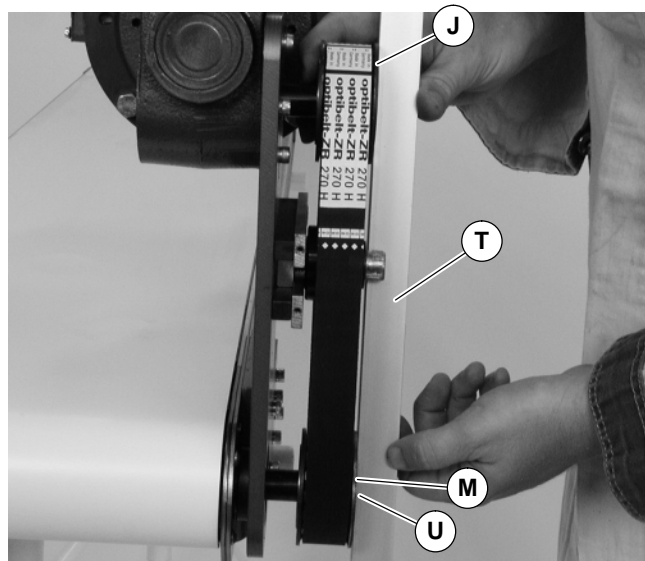

Figure 8
- Wrap timing belt (P) around driven pulley (M) and drive pulley (J). Install driven pulley (M) onto conveyor shaft.
- Using a straight edge (T of Figure 8), align driven pulley (M) with drive pulley (J). Tighten driven pulley taper lock screws (U, in pulley hub).